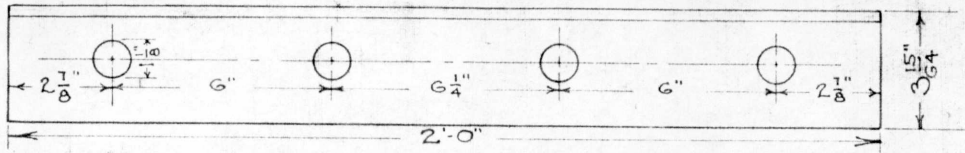

FIG. 2. OUTSIDE WOOD FILLER SEE SECTION BELOW
SECTION-FIG. 2.
- (b) " 167-32-J, FIG. 2 " " " " " A.